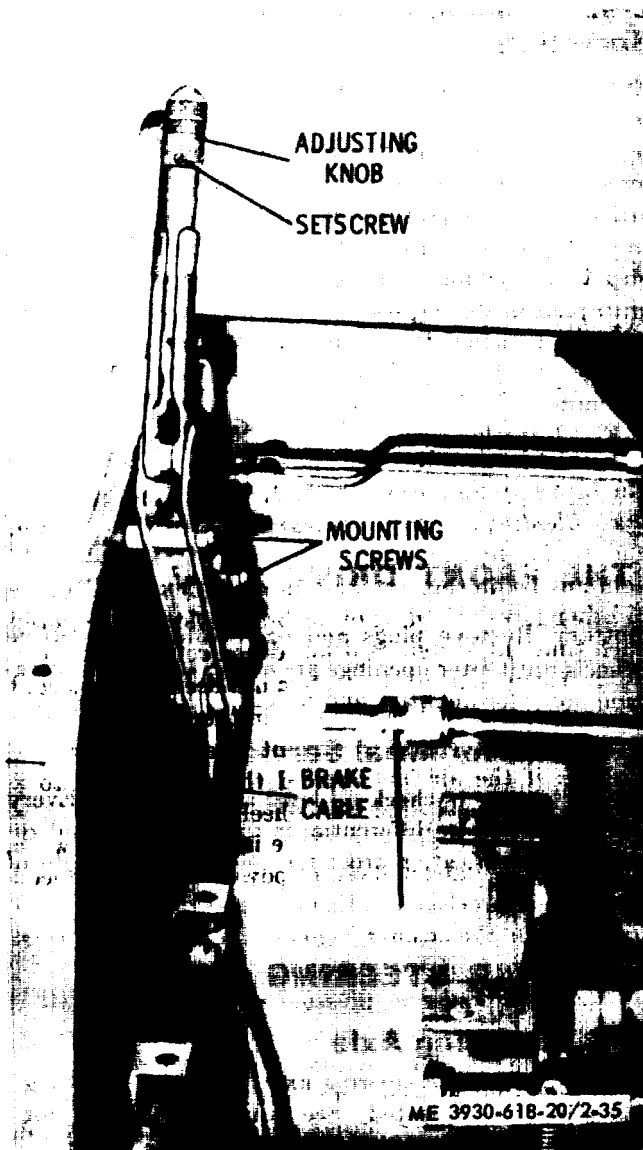

Figure 2-35. Handbrake lever, installed view.
(1) Level assembly. Refer to figure 2-35 and remove the level assembly as follows: